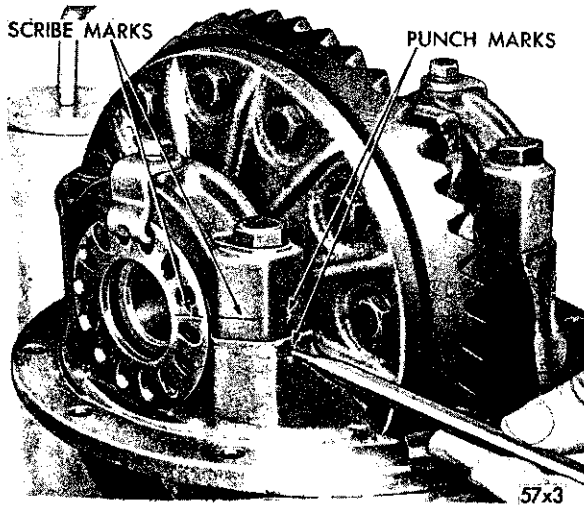

Fig. 8—Marking Bearing Caps and Adjusting Nuts
(3) Apply identifying punch marks on the bearing supports of the differential carrier, differential bearing caps, and bearing adjusters for reassembly purposes (Fig. 8).
(4) Remove each of the differential bearing adjuster lock screws and locks.
(5) With a $\frac{3}{4}$ inch socket wrench, loosen the bearing cap bolts (one on each side) and back off the bearing adjusters slightly with spanner wrench Tool C-406, to remove the differential case bearing preload. Remove the bearing cap bolts, caps and bearing adjusters.
(6) Remove the differential assembly with the bearing cups. Make certain that each bearing cup remains with its respective bearing.